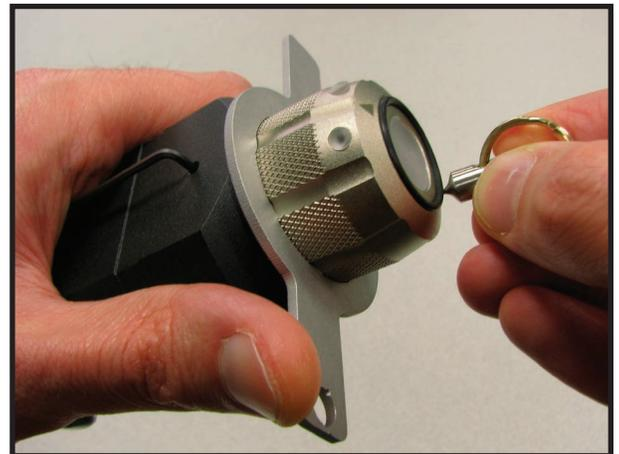

Figure 3: *Unscrewing the Knob*
- 3.3) While keeping the pin fully depressed, use the spanner wrench to provide torque to slightly rotate the knob counter-clockwise approximately 10 degrees. It is easiest to use one hand to apply pressure to both wrenches and the other hand to insert the pin. See Figure 3.